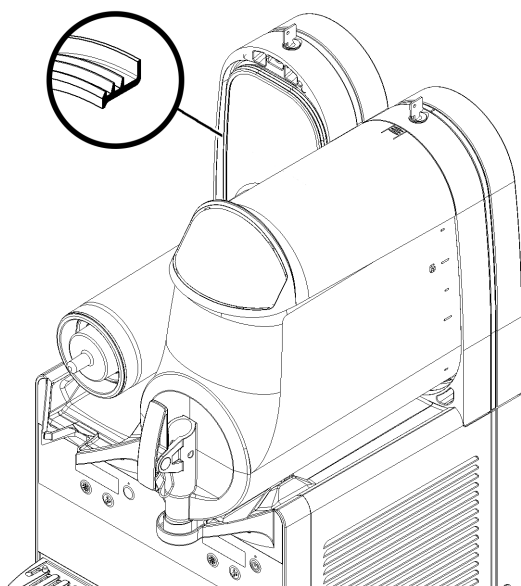

figure 18
- 4 Replace the container gasket. N.B. the rim with the greater diameter must be rested on the rear wall (see figure 18).